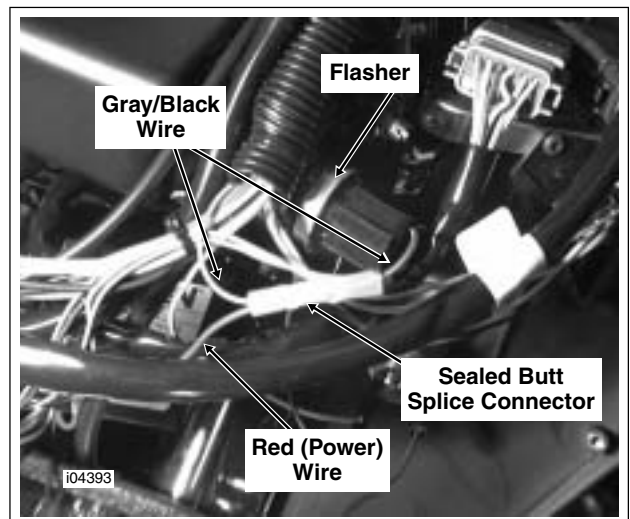

Figure 8-10. Flasher and Flasher Connector
- c. Obtain the sealed butt splice connector from the kit. Butt splice the red (power) wire to the gray/black wire. See Section B.5 SEALED BUTT SPLICE CONNECTORS in the 2004 Touring Models Service Manual (Part No. 99483-04). See Figure 8-10.